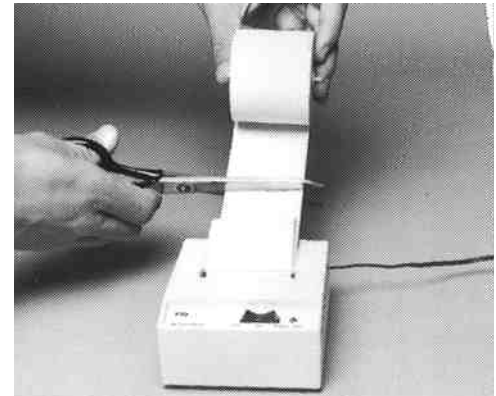

Figure VIII-14. Cutting the paper
Step 3. With a scissors, cut the paper that is fed to the printer. Make the cut as square as possible to ease reloading (fig. VIII-14).